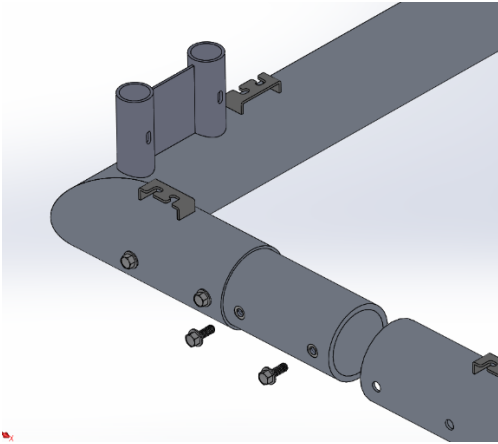
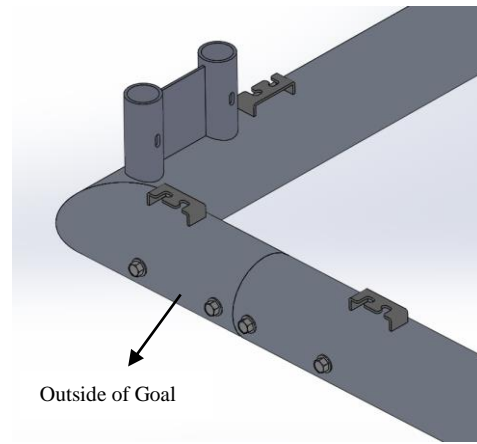

Figure 3A
Figure 3B
3. Connect the end frames to the crossbar by sliding the crossbar over the channel (Fig. 3A), confirm all net clips are facing toward the outside of the goal. Use (2) 3/8" – 16 x 1" serrated hex bolts to attach the crossbar to each end frame (Fig. 3B). Tighten all hardware. Repeat for opposite side.